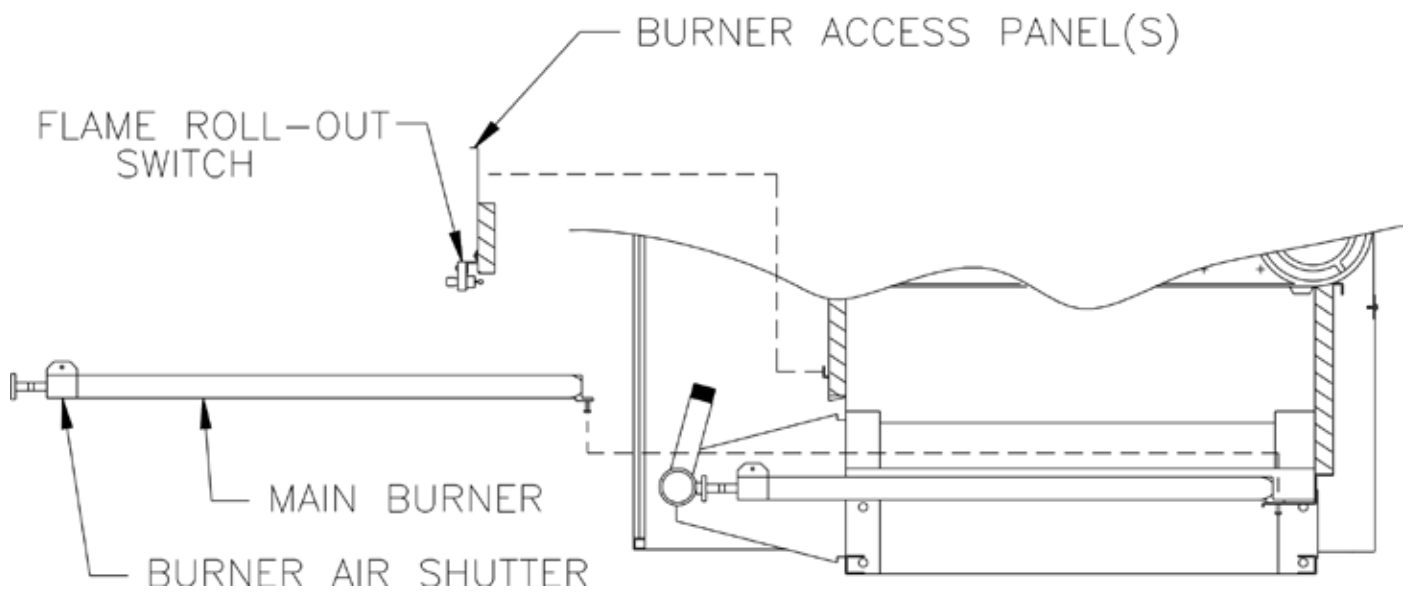

Figure 7: Burner/Burner Access Panel Installation
K. Install Pilot/Main Burner Assembly. See Figure 7. Assembly is located in Combination Boiler Parts and Control Carton. Verify assembly is properly located on support bracket in Base Rear Panel, seated on Main Burner Orifice, and secured with hitch pin clip.
L. Adjust Burner Air Shutters on all Burners. See Figure 7. (On Packaged Boilers, Front Door and Burner Access Panel(s) must be removed to make adjustments.) Distance between front edge of Burner Air Shutter and burner mounting ring should be approximately 11/16". To adjust this distance, loosen screw at top of air shutter and slide into correct position. Then tighten screw. (Replace Burner Access Panel(s) and Front Door on Packaged Boilers.)